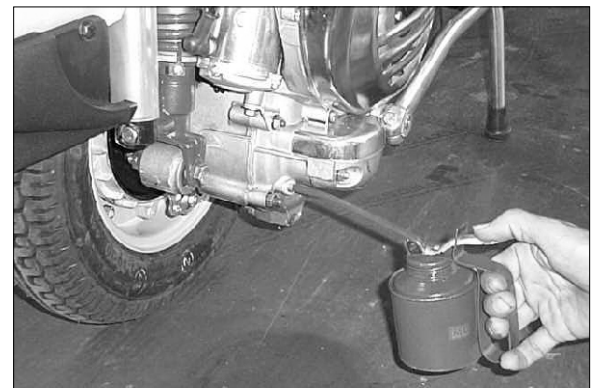

Fig. 83-Filling of engine oil
- (f) **Refilling:** Fill the oil 20w - 40 multigrade Qty. 250 +0/ -5 ml. through filling hole (1) to the level (see fig.83)